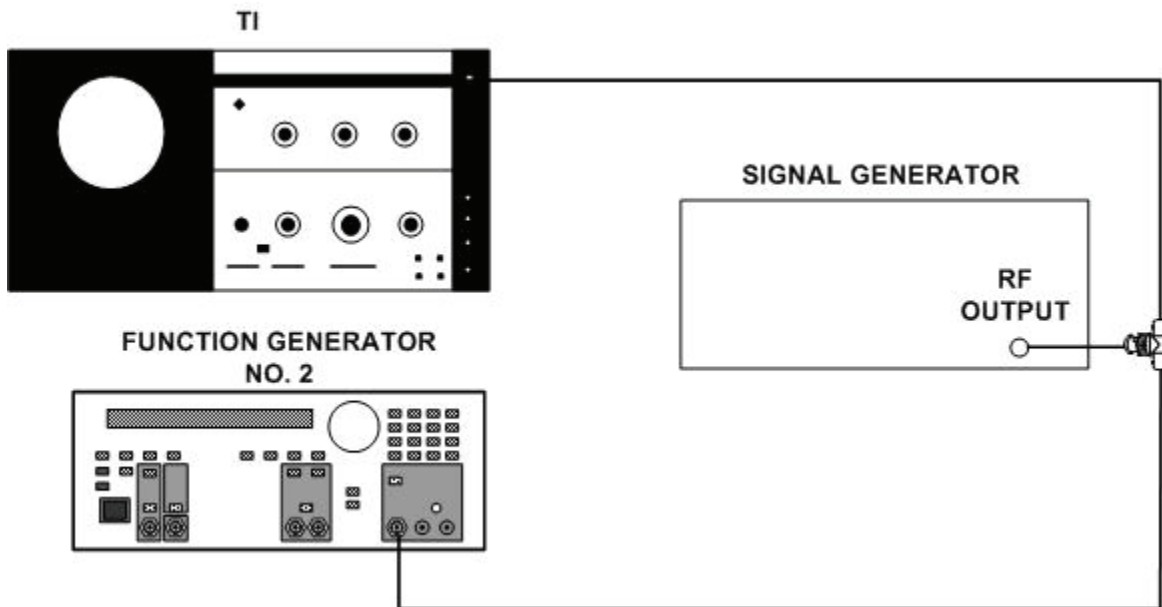

Figure 16. Spurious responses - equipment setup.
(2) Position IF plug-in controls as listed in (a) through (h) below:
(3) Connect equipment as shown in figure 16.